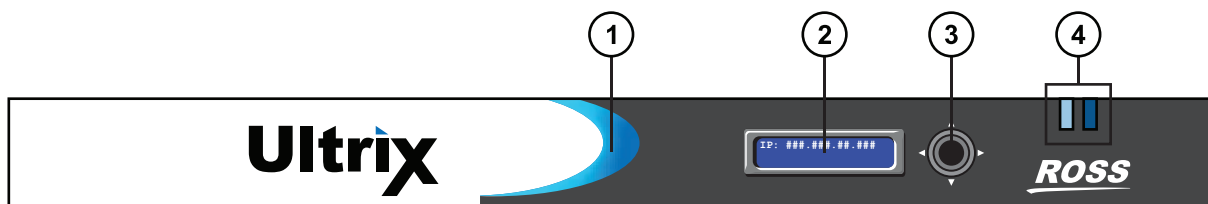

Figure 3 Front Panel — ULTRIX-NS-FR1
★ The ULTRIX-NS-FR1 and ULTRIX-NS-FR2 have updated frame components to allow the support of more advanced IO modules such as ULTRIX-IP. The ULTRIX-NS-FR1 and ULTRIX-NS-FR2 may be identified by the blue dot above the i on the front panel Ultrix logo (**Figure 3**).
The Ultrix router is designed to be operated with the door closed to ensure adequate cooling via the fans. The front panel includes the same features regardless of the router model. **Figure 3** shows an ULTRIX-NS-FR1.
- ★ The ULTRIX-NS-FR1 and ULTRIX-NS-FR2 routers can be identified by the Ultrix logo on the front door with an “i” with a blue dot. Refer to **Figure 3** for an example of the ULTRIX-NS-FR1 front door.